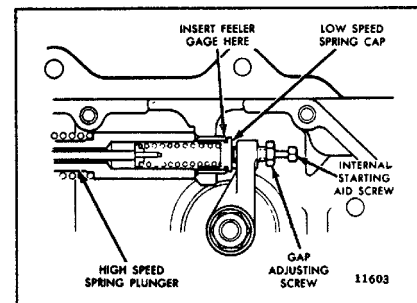

Fig. 11. Governor Gap Adjustment
6. Check the gap between the low-speed spring cap and the high-speed spring plunger with a feeler gage (Fig. 11). The gap setting should be .002"-.004". If the gap setting is incorrect, reset the gap adjusting screw.